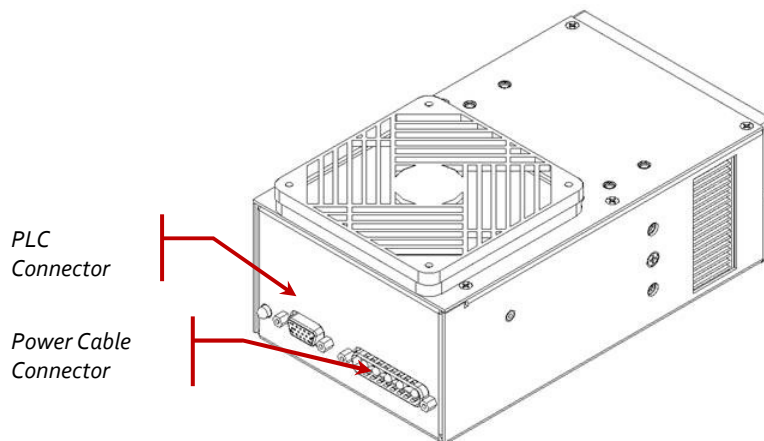

Figure 1 UV LED Head Connection Ports
3. Attach the male end of the power cable to the power supply unit, and connect the female end of the power cable to the UV LED Head per Figure 1.